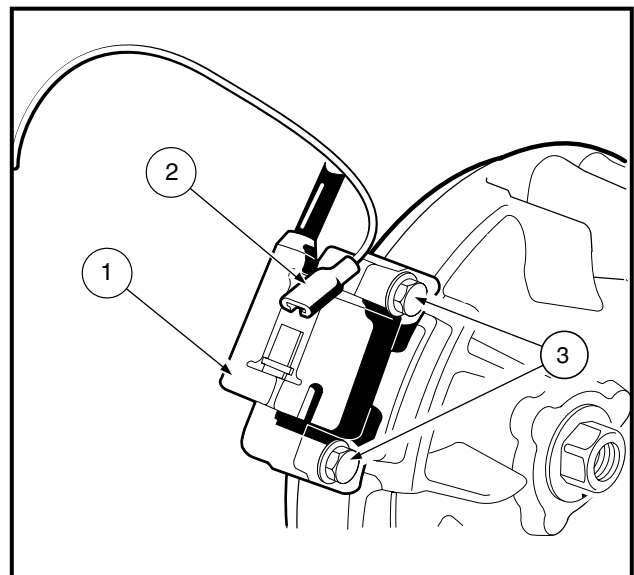

Figure 13-7 Ignition Coil
3. Disconnect the ignition coil (1) from its primary lead wire at the connector (2). Remove the two bolts (3) and take out the ignition coil (**Figure 13-7, Page 13-7**).